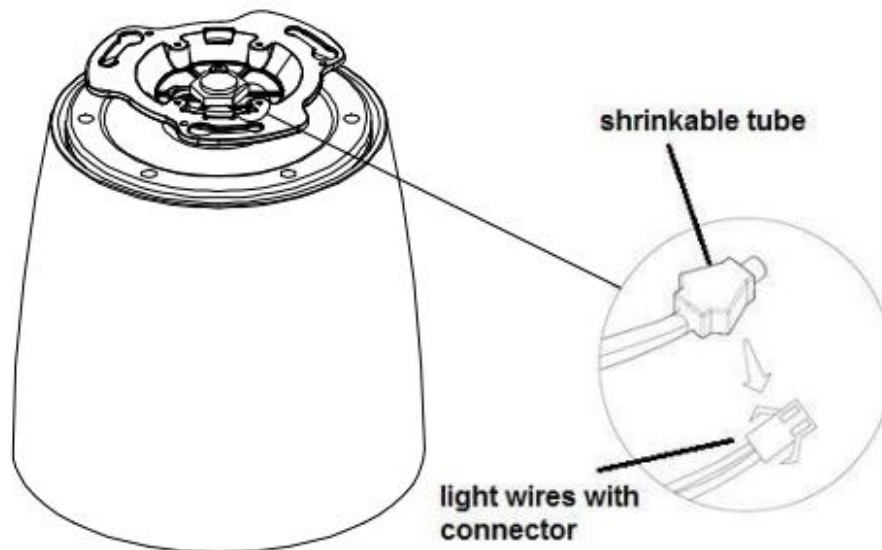

Fig. 11
- Remove the heat shrink tube from the connector. (Fig. 11)